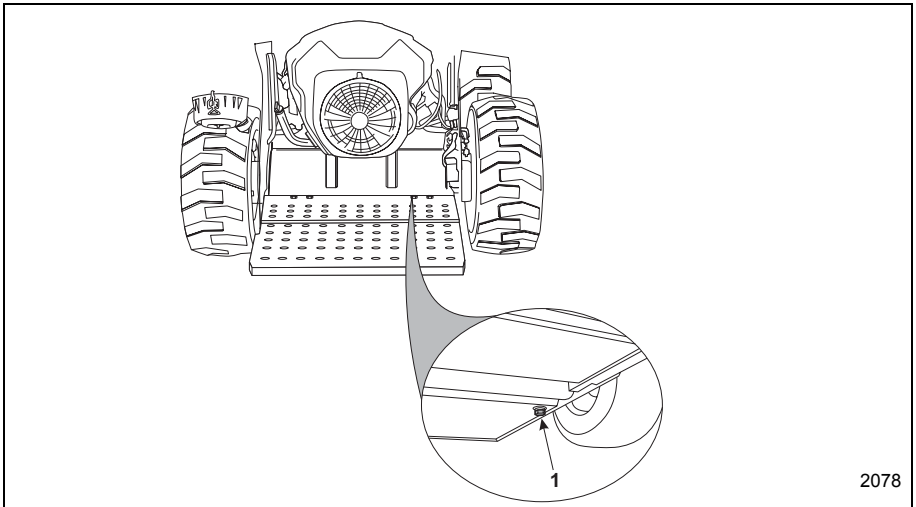

Figure 4–24 Hydraulic Tank Drain Plug
- b. Remove the hydraulic tank drain plug (Item 1, Figure 4–24) and drain all hydraulic fluid from the machine.